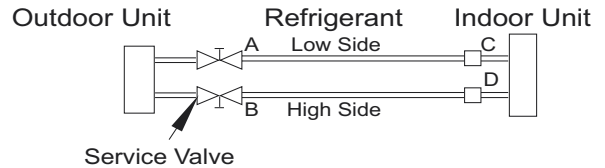

Fig. 39 — Service Valve
1. Completely tighten flare nuts A, B, C, D, connect the manifold gage charge hose to a charge port of the low side service valve (see Fig. 39).